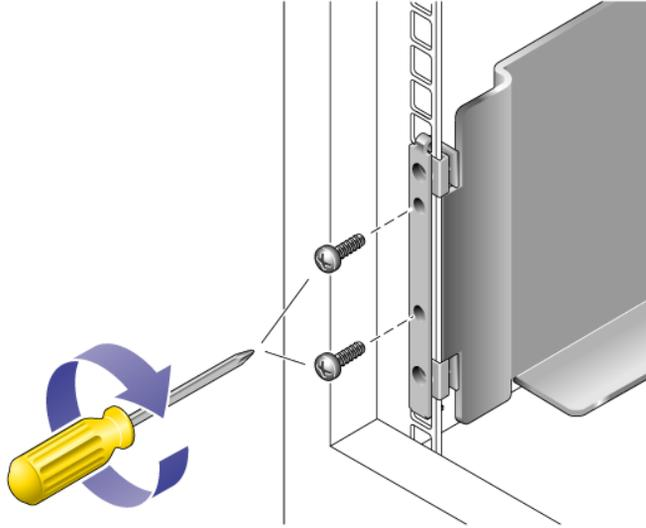

FIGURE 2-13 Securing the Rail to the Front of the Cabinet
3. Use the #2 Phillips screwdriver to insert and tighten two 8-32 screws to secure the rail to the front of the cabinet (FIGURE 2-13).